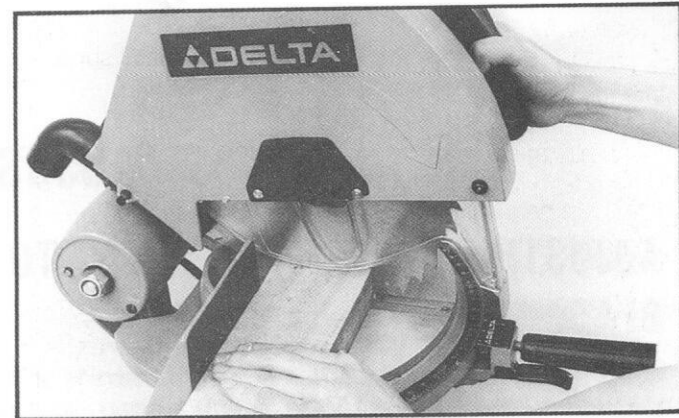

Fig. 21
2. Make a cut on a piece of wood, as shown in Fig. 21.